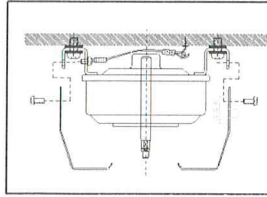

Figure 5
- Position the motor housing to the motor aligning screw holes. See Figure 5